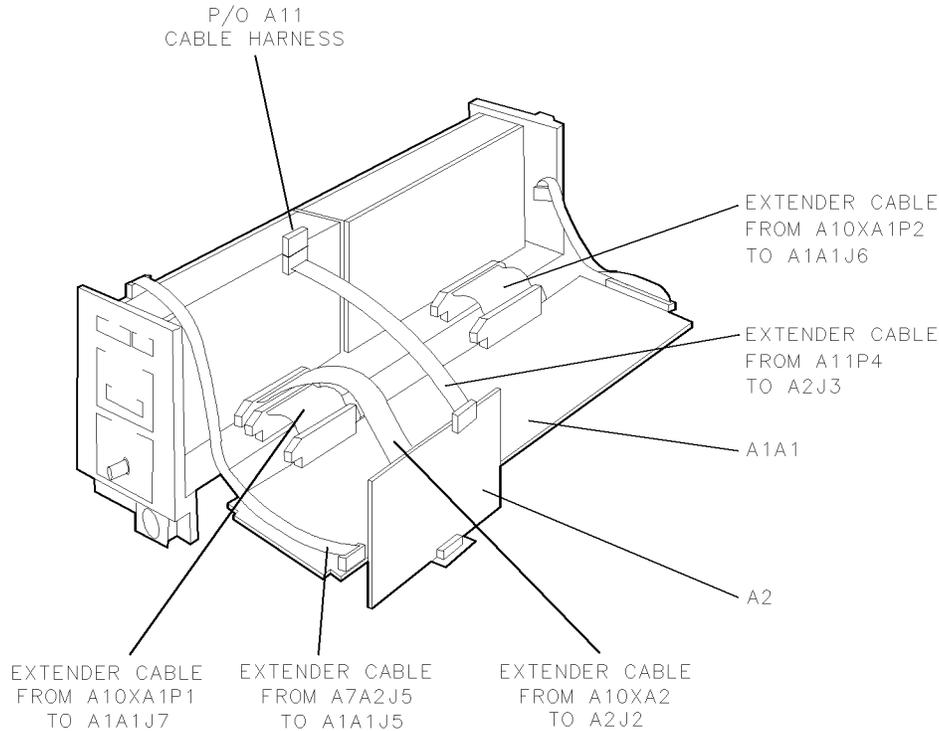

Figure 6-8. Placing A1A1 Host/Processor and A2 Video Processor on Extender Cables
2. Remove the A1A1 host/processor and A2 video processor. Refer to Chapter 9. These assemblies must be electrically reconnected to the module as illustrated in Figure 6-8.